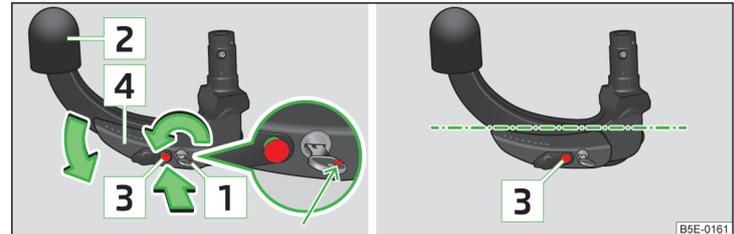

Fig. 119 Setting the ready position/ready position
- Turn the key so that its red mark **1** » Fig. 119 is visible.